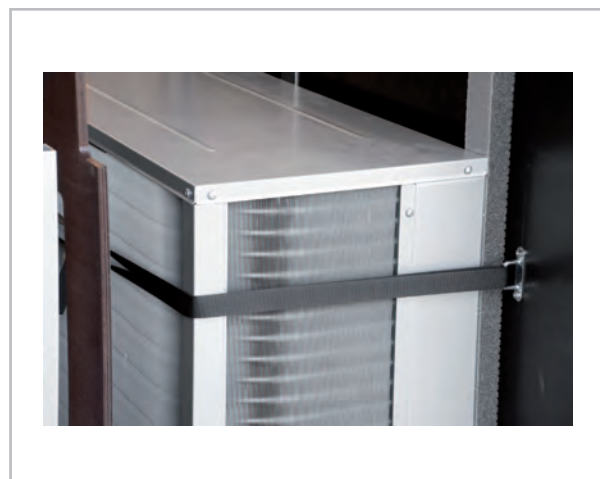

Fig. 34
- 23.** After installing the holding eyelets on the left and right of the baffle plate for the air outlet, use the straps supplied to attach it so that it is flush with the housing on the outdoor unit. Ensure that the baffle plate is tight to the outdoor unit's housing. To do this, you must press the baffle plate tightly onto the housing. It is sufficient for the baffle plate to be installed tight and flush to the outdoor unit (Fig. 34).